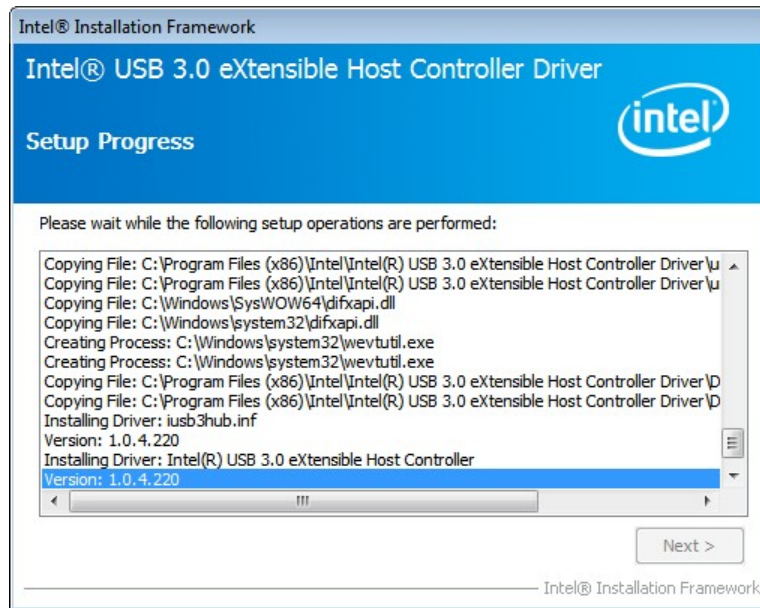

Figure 6-31: USB 3.0 Driver Setup Operations
Step 11: Setup Operations are performed as shown in **Figure 6-31**.